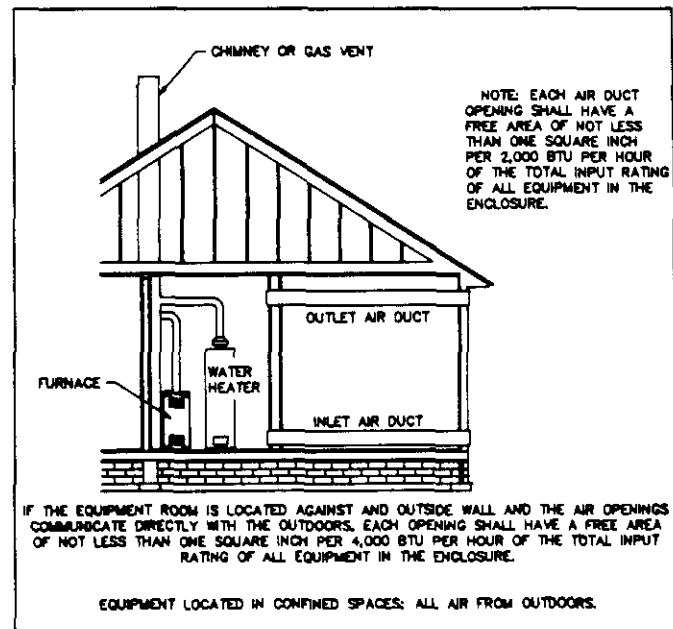

FIGURE 15
5. If combustion air ducts will run horizontally, ducts and each opening must have a minimum free area of one square inch per 2,000 Btuh total combined input rating. You must allow for all gas appliances within the furnace space. See Figure 15.